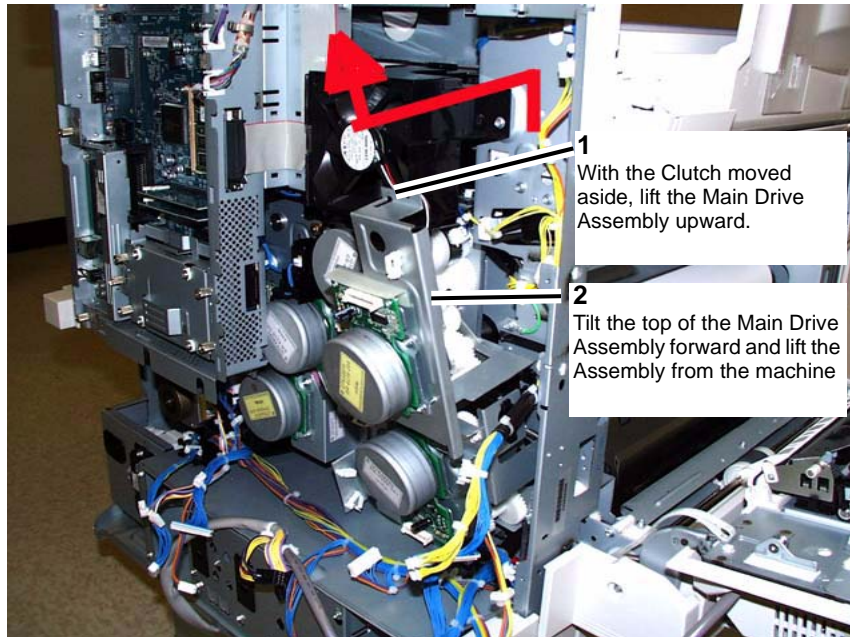

Figure 13 Removing the Main Drive Assembly
15. Remove the Main Drive Assembly. (Figure 13)